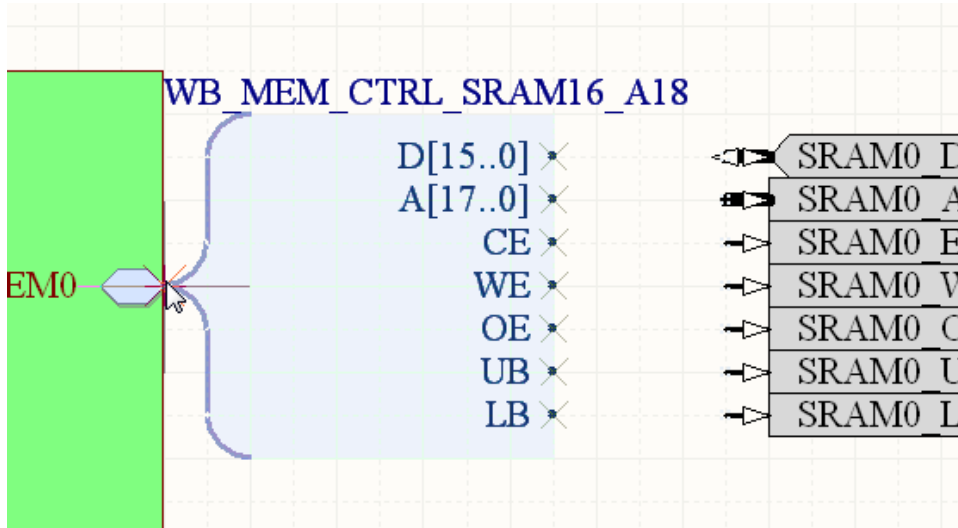

Figure 10. Flip the Signal Harness and place it so that it touches the Sheet Entry.
28. A Harness Connector will appear floating on the cursor. It may be oriented the wrong way, if it needs to be flipped along the X axis press the X key on the keyboard. Place it so that the tip of the brace touches the Sheet Entry, as shown in Figure 10.